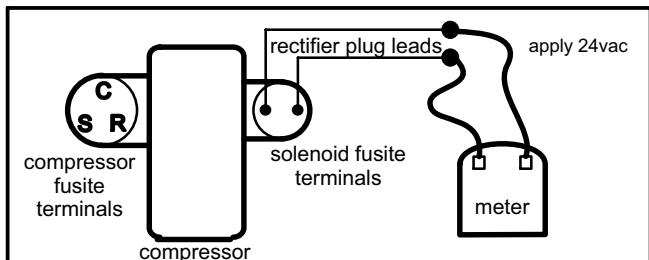

FIGURE 14
2. Supply 24 volts AC control voltage to the wire ends of the full wave rectifier plug. Listen for a "click" as the solenoid is energized. See figure 14.